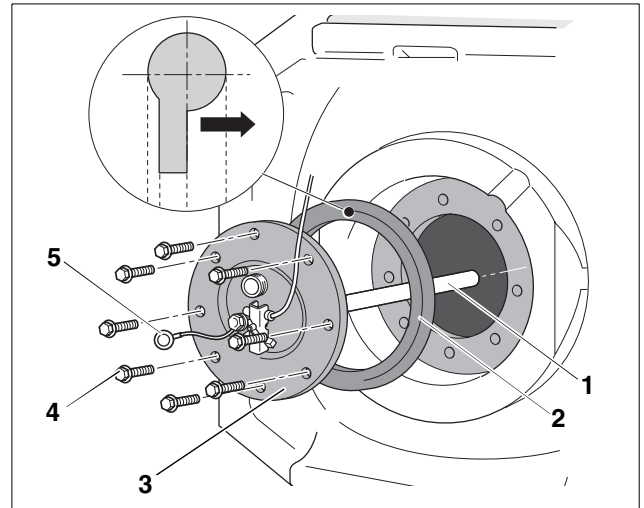

Fig. 19 Installing a new anode rod
- Install the clean-out cover together with magnesium anode (Fig. 19, **Item. 1**) back in the tank. Observe the orientation of the tank gasket. The word "Deckelseite" must be facing the clean-out cover.
- We recommend using a new gasket (Fig. 19, **Item. 2**) when changing out the Magnesium anode to avoid a leakage at the tank.
- Tighten hex head bolts (Fig. 19, **Item. 4**) by hand.
- Make sure to securely tighten the ground cable (Fig. 19, Item 5) with a wrench to the clean-out cover to ensure a good electrical connection.
- Tighten the hex head bolts for the clean-out cover with a  $\frac{3}{4}$  turn using a wrench (Fig. 19, **Item. 4**).